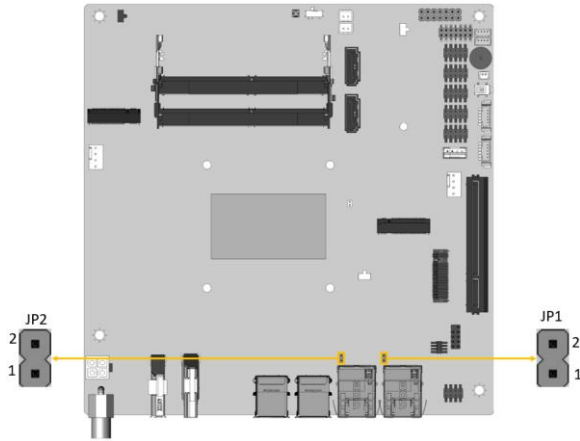

Figure 3-11: LAN LED Connector Locations
- CN Location:** See **Figure 3-11**